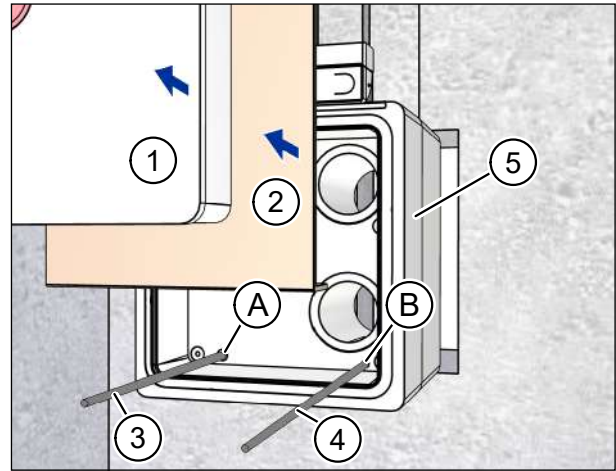

Fig. 17: Inserting the wall box
- ▶ Remove the plaster cover (item 1 in Fig. 17) from the wall box (item 5 in Fig. 17).
- ▶ Remove the cardboard insert (item 2 in Fig. 17) from the wall box (item 5 in Fig. 17).
- ▶ Thread the mains cable (item 3 in Fig. 17) through the cable inlet A (item A in Fig. 17) in the wall box.
- ▶ If necessary, use a screwdriver to punch through the sealed cable inlet B (item B in Fig. 17).
- ▶ Thread the control cable, if required (item 4 in Fig. 17) through the cable inlet B (item B in Fig. 17) in the wall box.
- ▶ Push the wall box (item 5 in Fig. 17) fully into the wall breakthrough.